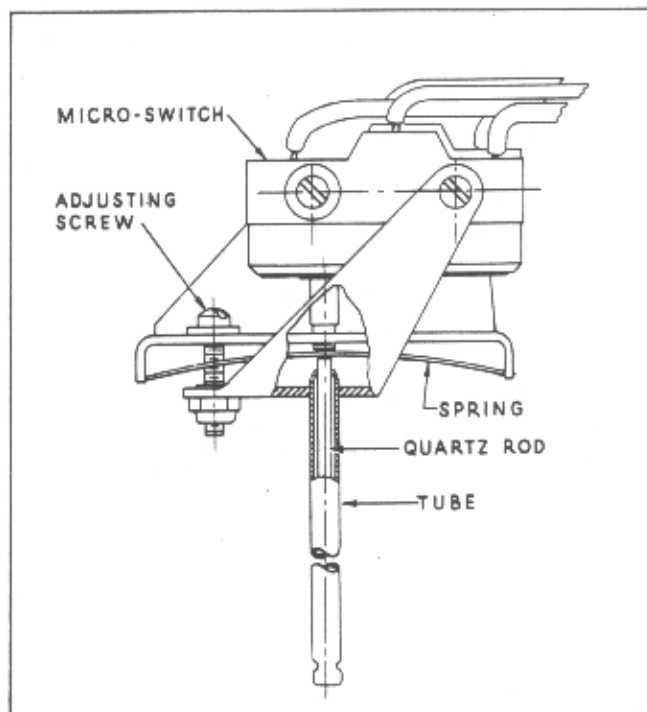

Figure 9—Flame Detector Switch
1. The flame detector switch (Figure 9) consists of a quartz rod encased in a metal tube with a mounting bracket which supports a microswitch and adjusting spring.